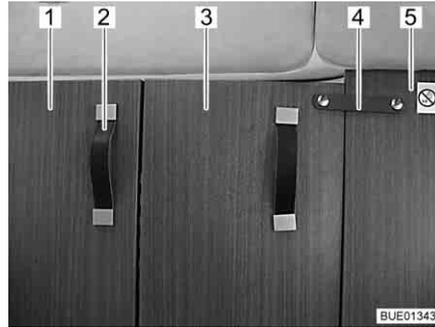

Fig. 43 Driver's cabin partition, closed
- Pull the driver's cabin partition (Fig. 43,1) completely inwards using the handle (Fig. 43,2).
- Using the securing strap (Fig. 43,4), secure the folding section of the driver's cabin partition (Fig. 43,3) to the fixed partition wall (Fig. 43,5) behind the front passenger seat.